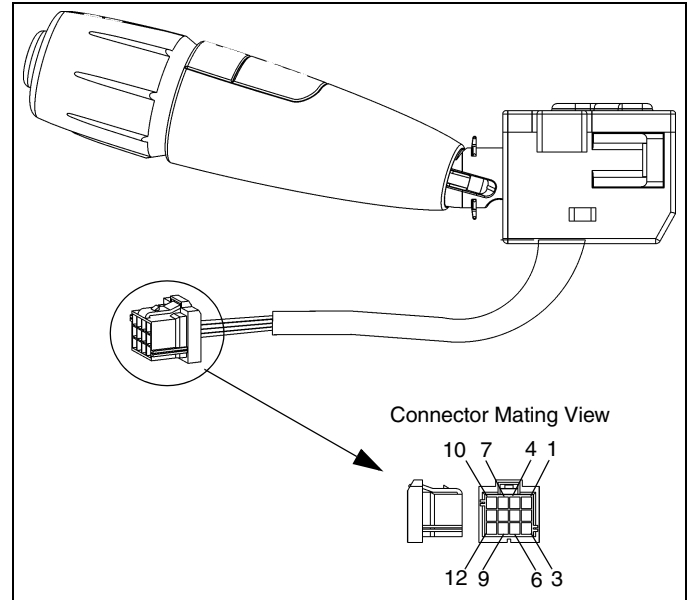

Figure 15-3
2. Disconnect the turn signal stalk pigtail harness connector from the instrument panel harness behind the dash. See Figure 15-3.